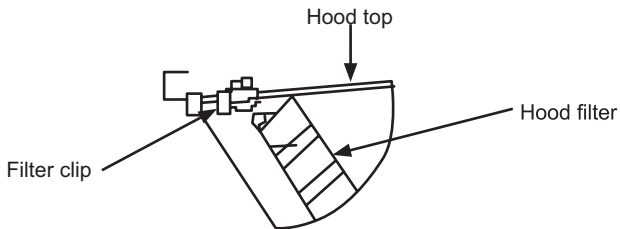

Figure 11
4. Open the filter clips on the underneath side of the hood top and insert filter. See Figure 11.